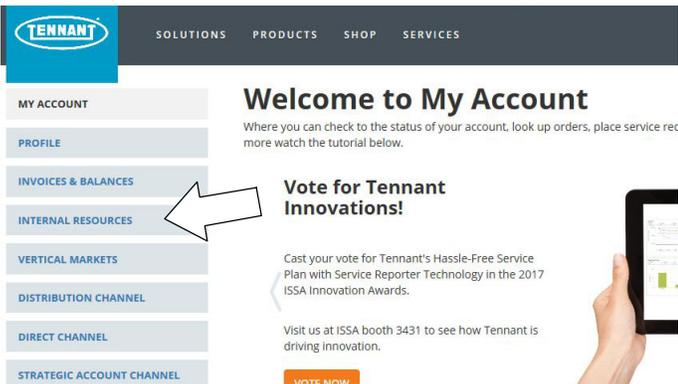

Fig. 32
2. Once logged in to the “My Account” website, click on the “INTERNAL RESOURCES” link as shown below (Figure 32).